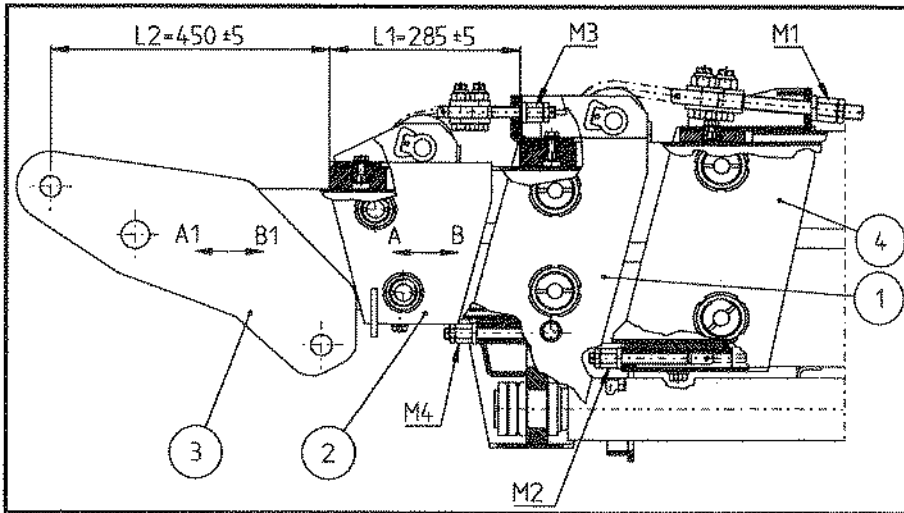

Figure 15-1 Adjustment of minimum length of booms
2. Check distance L1 of extension 2 from the edge of upper glide pad of extension 2 to the edge of upper glide pad of extension 1 (figure 15-1). The distance should be 285 ± 5 mm. If extension 2 needs to be moved in direction A, tighten nut M1 and loosen nut M2. If extension 2 needs to be moved in direction B, tighten nut M2 and loosen nut M1.
3. Check the distance L2 of extension 3 (figure 15-1). The distance should be 450 ± 5 mm. If extension 3 needs to be moved in direction A1, tighten nut M3 and loosen nut M4. If extension 3 needs to be moved in direction B1, tighten nut M4 and loosen nut M3.